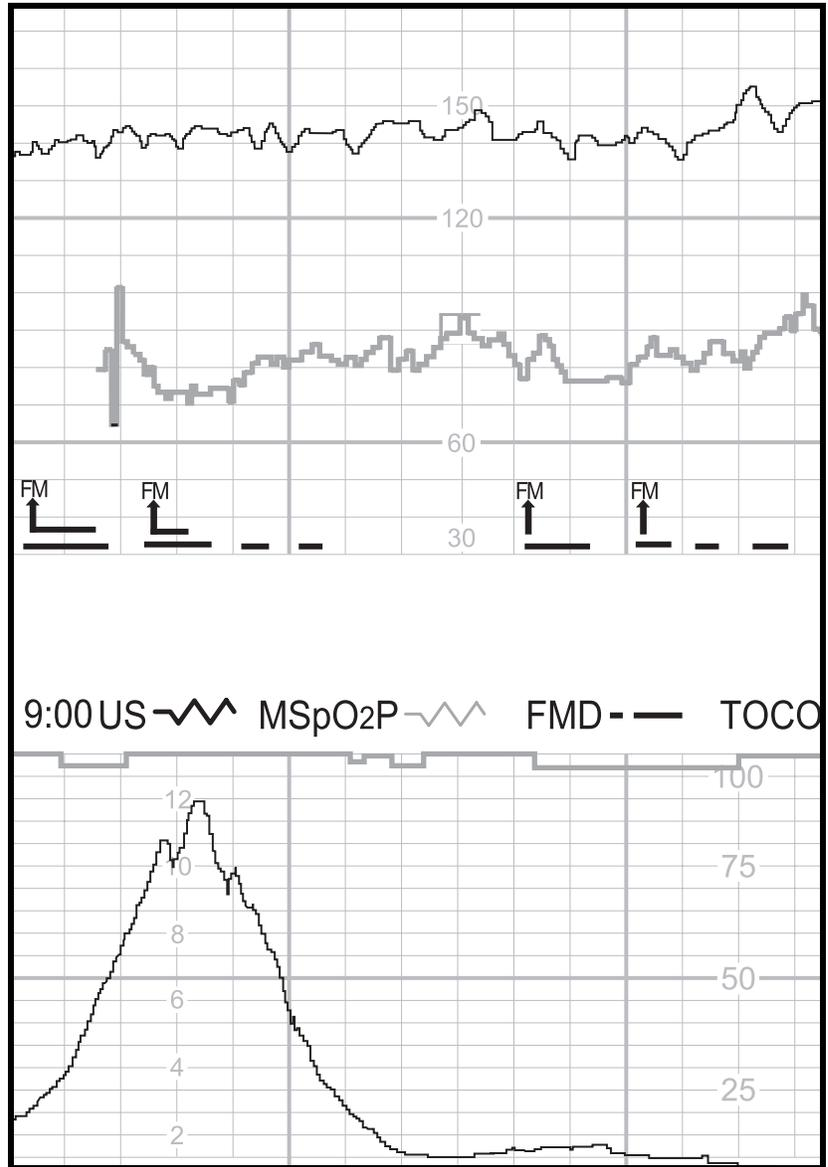

Figure C-2. Simulated Fetal Movement Detection Trace
When fetal movement is *detected*, a solid line is automatically marked on the bottom of the upper grid for the duration of the detected movement. (Refer to Figure C-2.)
2. Instruct the mother to press the Remote Event Marker button whenever she feels fetal movement. Ask her to hold down the button for the duration of the perceived fetal movement. The annotation,  or , with a horizontal bar, prints on the strip chart for as long as the button is held down. (Refer to Figure C-2.)